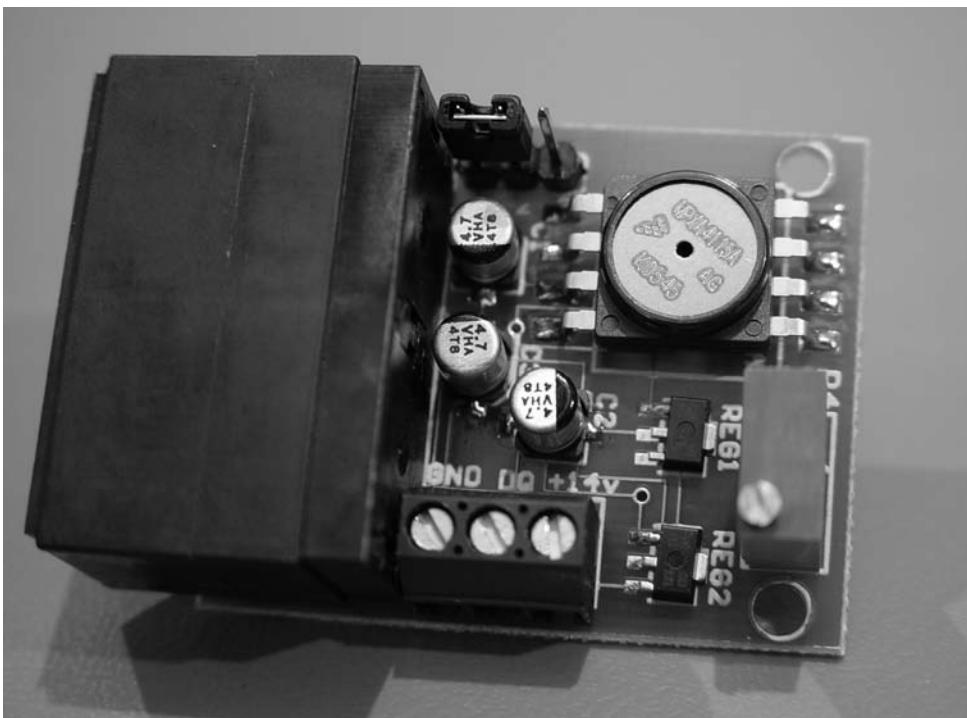

FIGURE 8-3: Completed Hobby-Boards module.
5. Inspect. Inspect each connection to make sure there are no shorted parts. Figure 8-3 shows the completed board.
Table 8-2 lists the pin connections for the Hobby-Boards module. To keep things simple, you will attach power to the screw terminals shown in Figure 8-3. Use a voltmeter to determine which wire is positive and connect it to the screw terminal marked +14V. Connect the negative wire to the GND terminal. Double-check your work! If you get the wires connected backwards, you'll fry your barometer module!